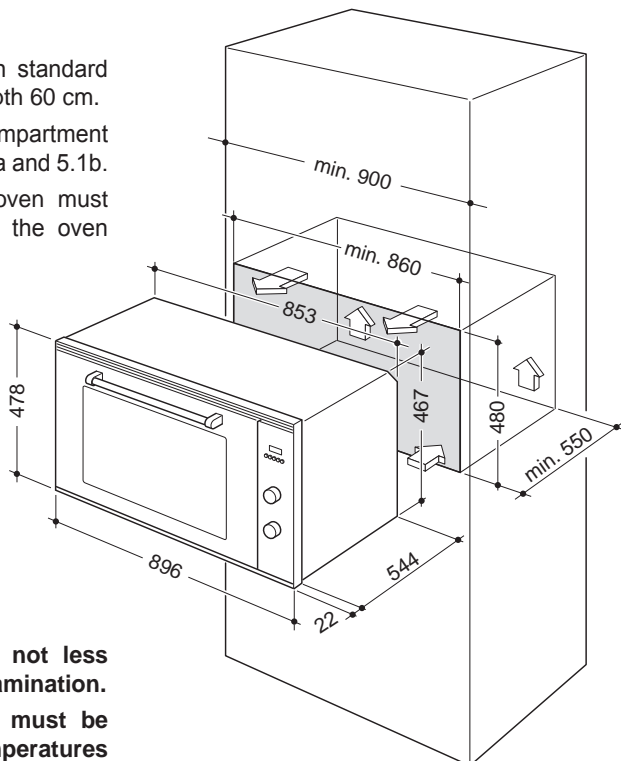

Fig. 5.1a
- Installation requires a compartment as illustrated in figures 5.1a and 5.1b.